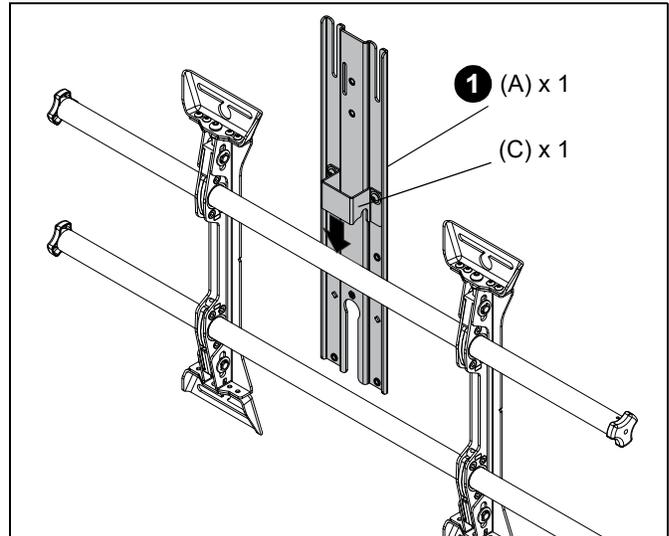

Figure 11
1. Slide upright assembly (A) behind wall mount rails until rail bracket (C) rests on top wall mount rail. (See Figure 11)